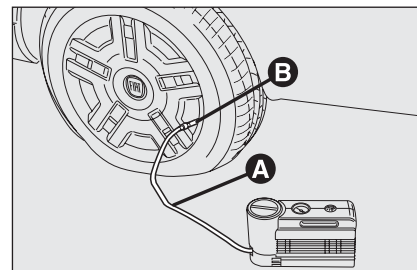

fig. 12
- ☐ **Pull up the handbrake.** Loosen tyre inflation valve cap, take out the filler hose **A-fig. 12** and screw the ring nut **B** on the tyre valve;